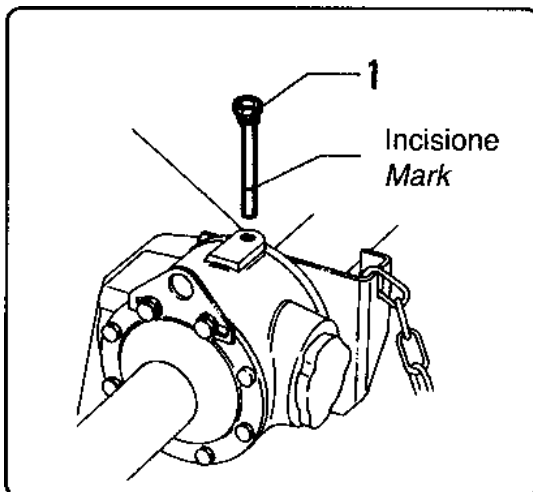

fig. 7.4.3
- Check the level of the lubricant in the gearbox through the inspection plug (fig. 7.4.3 pos. 1) and top up to the mark on the rod if necessary.